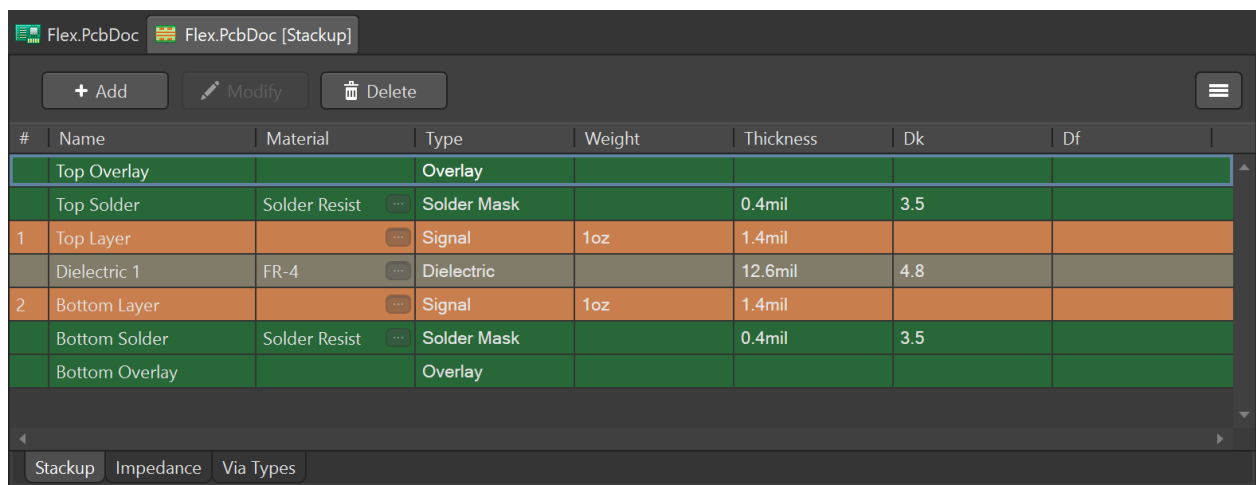

Figure 1. Layer Stack Manager for default 2-layer board
5. From the **Design** menu, select the **Layer Stack Manager...** . The *Layer Stack Manager* will open as shown in Figure 1.